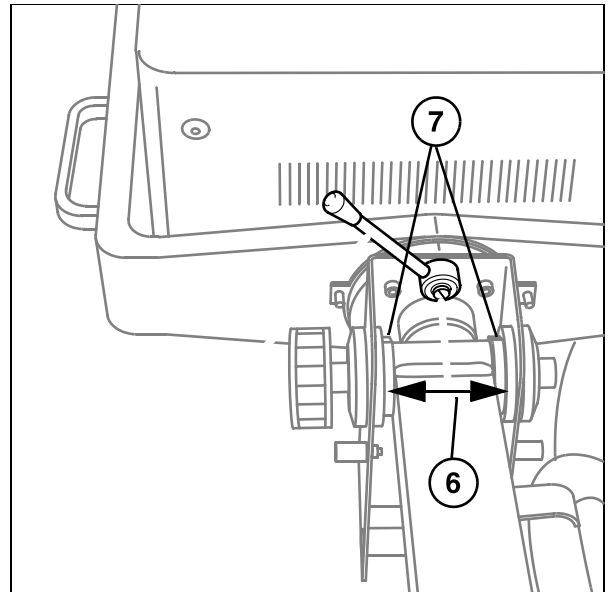

Fig. 6:
- Check the edges of the locking disks (6//Fig. 6 / p. 29); they must not be worn.
- Check to see whether there is play to all sides without any signs of wear on the stop yoke in the head of the stand (7//Fig. 6 / p. 29).